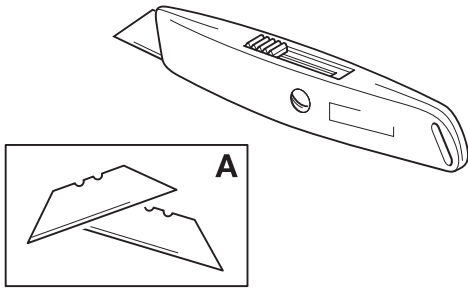

Fig 8. Craft Knife
- d Craft Knife. ⇒ Fig 8. \(□ 1-9\). The blades 8-A are replaceable.